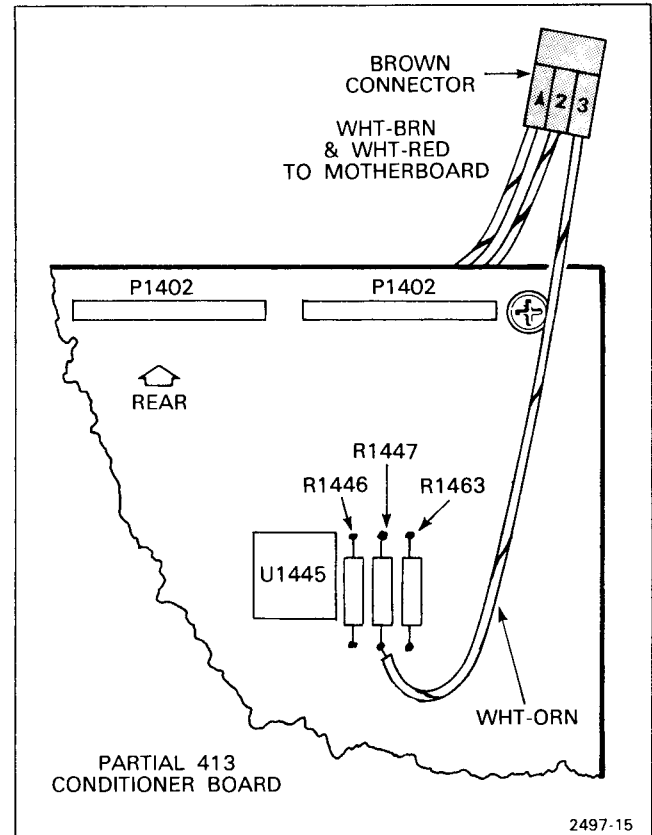

Figure 1-3. Adding wire to 413 Conditioner board.
- e. Solder free end of white-orange wire to junction of U1445-6 and R1447. See Figure 1-3.